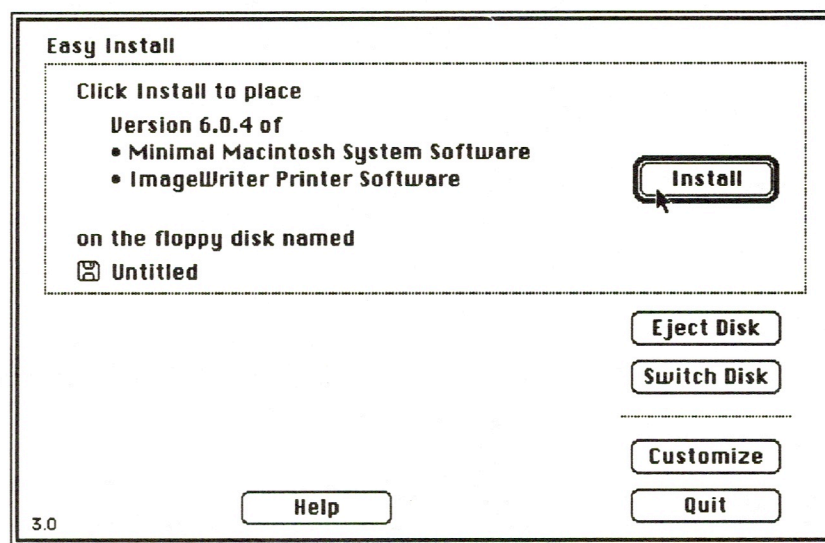

Figure 45 The Easy Install dialog box
8. Click Install. (See Figure 45.) Insert system software diskettes as requested.